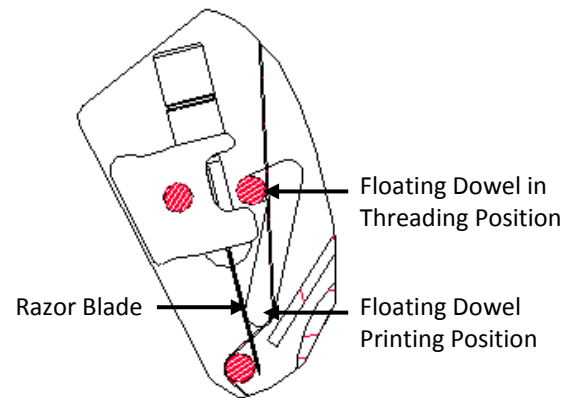

Figure 10
2. Place IFP in *Threading Position* shown in Figure 7. Place *Floating Dowel* in *Threading Position* as shown in Figure 10.